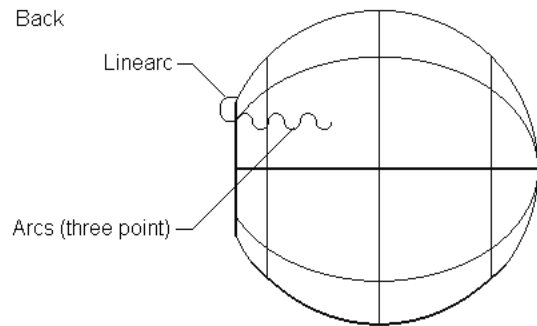

Figure 7-67 Profiles for creating aperture opening
2. Choose the **Arc (three point)** tool from the **Keypoint Curve Toolbox** and create the profiles, as shown in Figure 7-67.
3. Choose the **Line-arc** button from the **Keypoint Curve Toolbox** and create the profile, refer to Figure 7-67.